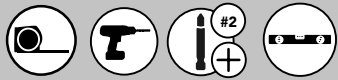

FIG. H-1
Based on the min cabinet opening, select the Blum spacers that correlate with the opening. Attach (2) of the Blum spacers to the **left** slide. Attach one spacer in the first hole and the other spacer 5th hole (See Figure H-1).